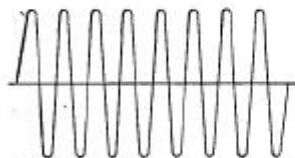

Fig. 51.—The waveform of an unmodulated carrier wave.
during a pause in the programme, whilst the microphones are idle. The transmitter is still actively radiating, and the voltage generated in the receiving aerial has the simple *sine-wave* form shown in Fig. 51. These oscillations are of *unmodulated continuous wave-form* and have a frequency which represents the carrier frequency of the transmitter. The *amplitude*
**The Carrier Wave** (see Fig. 51).—As soon as the broadcasting station is switched on, and before anyone speaks into the microphone, wireless waves are being radiated. These I liken to waves on the surface of water, and, as